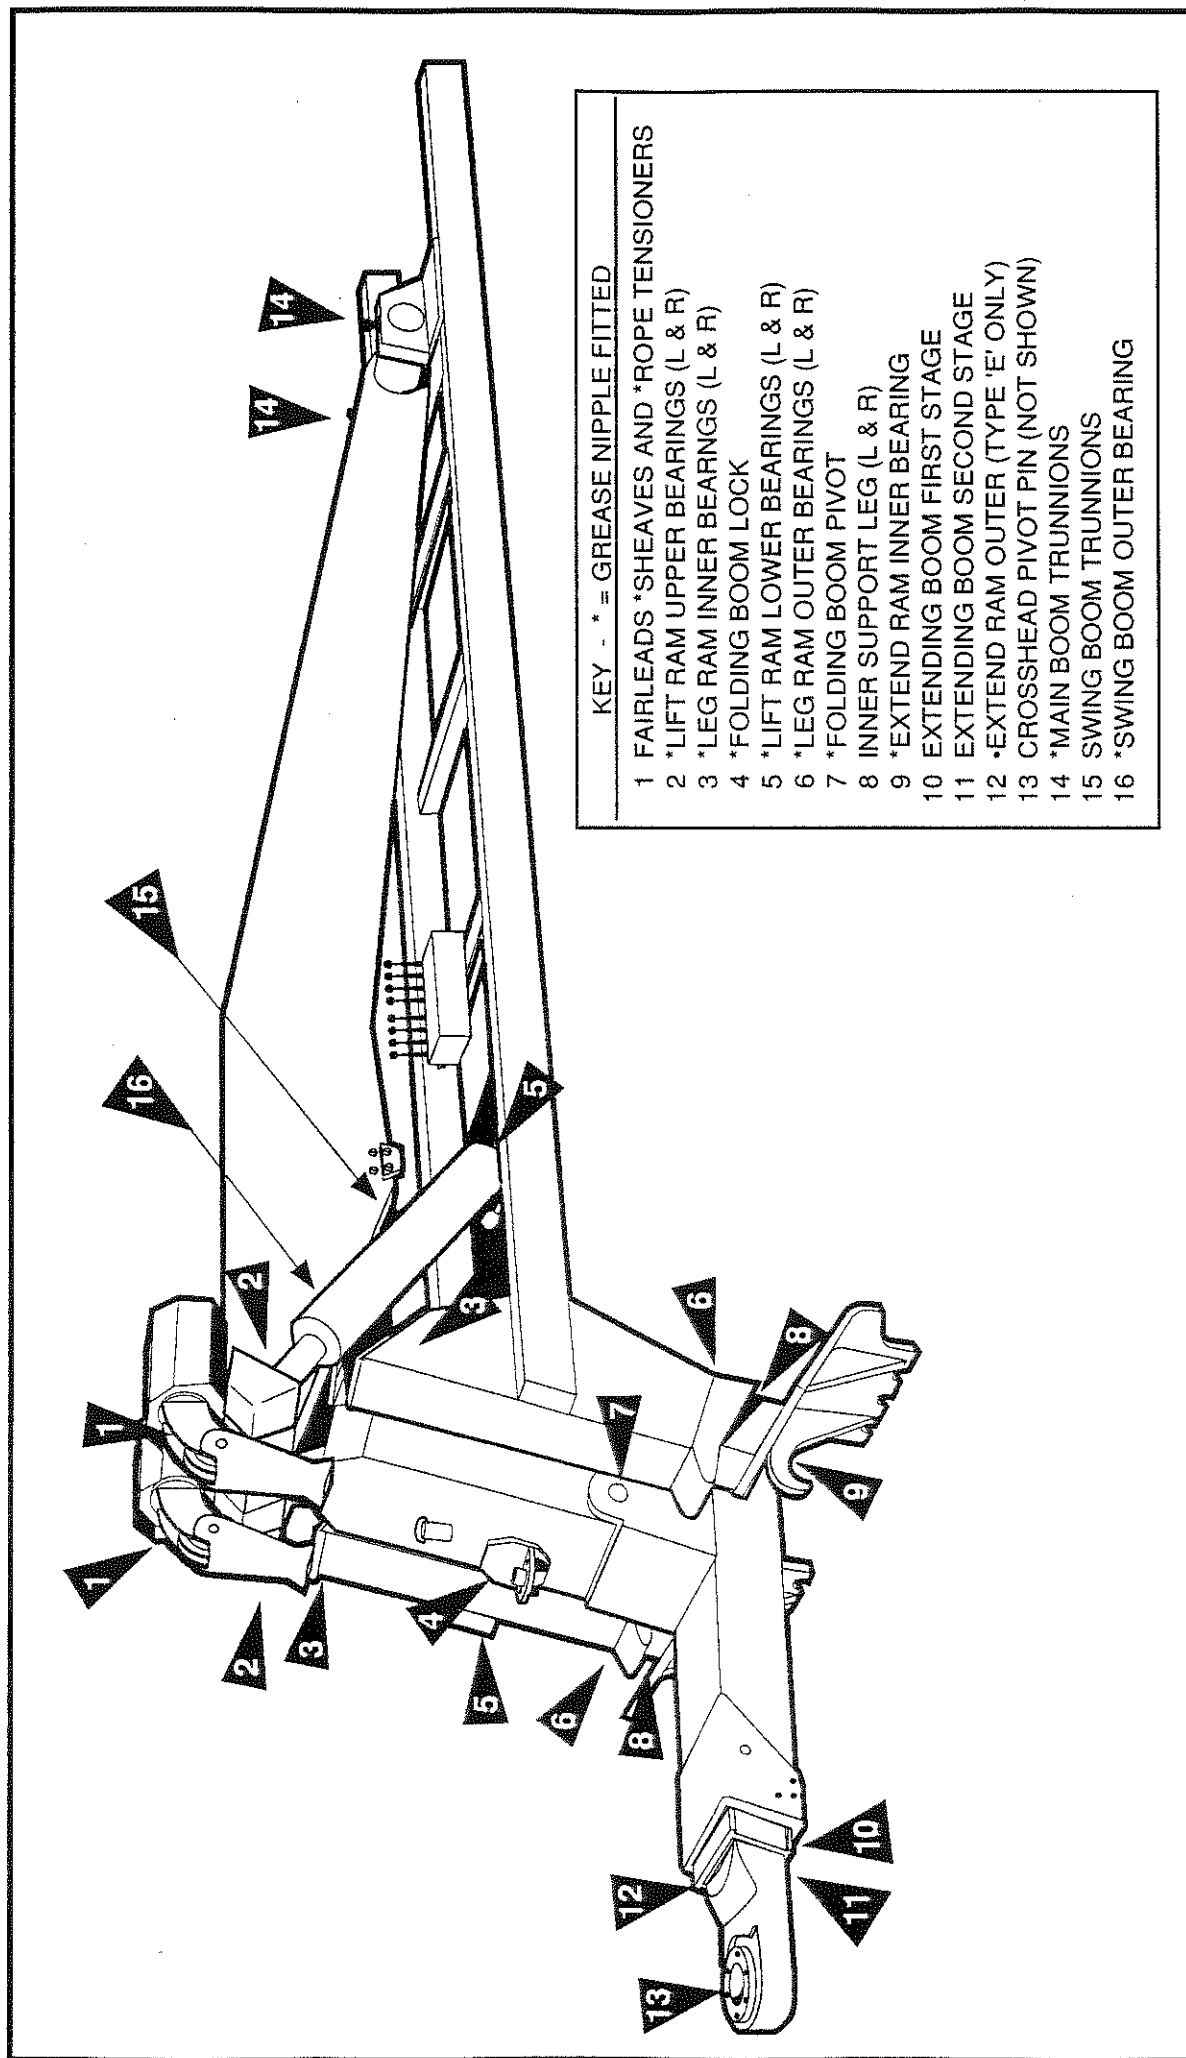

Figure 15 - Lubrication Diagram
- 4.3.1 Lubricate all round. See Figure 15 - Lubrication Chart.